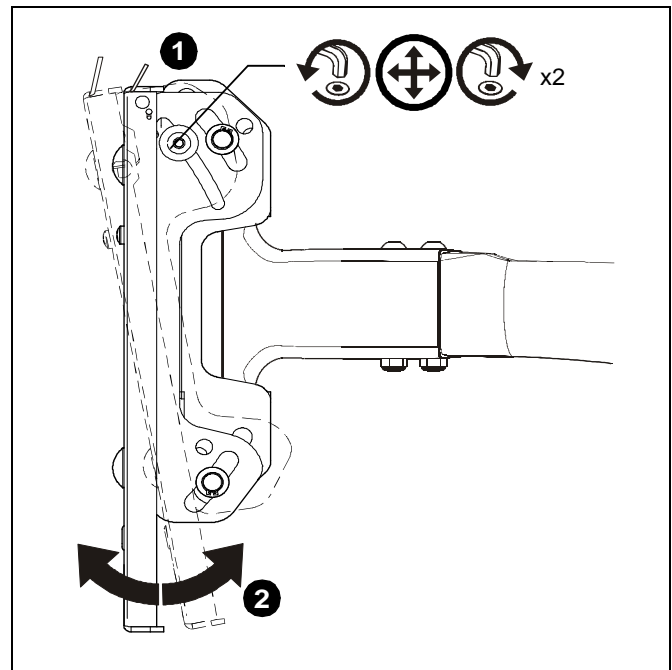

Figure 5
1. With display installed, tighten or loosen two screws, one on each side, using a 5/32" hex wrench. (See Figure 5)